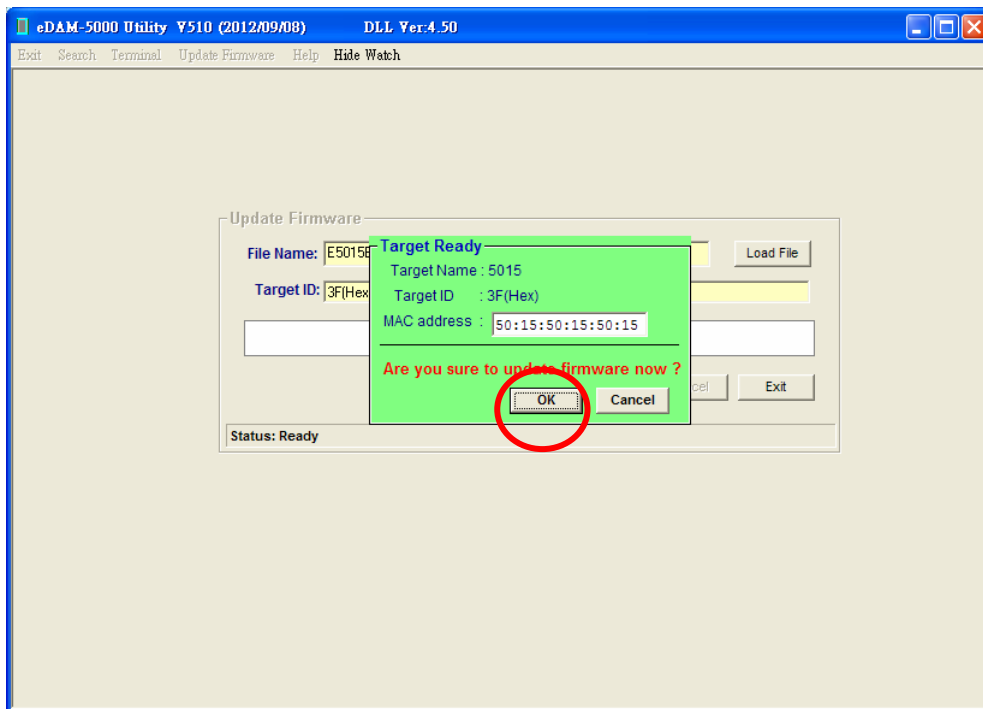

Figure -9
9. If module found. The "Target ready" window pop up (see Figure -9) .Click "OK" button to start